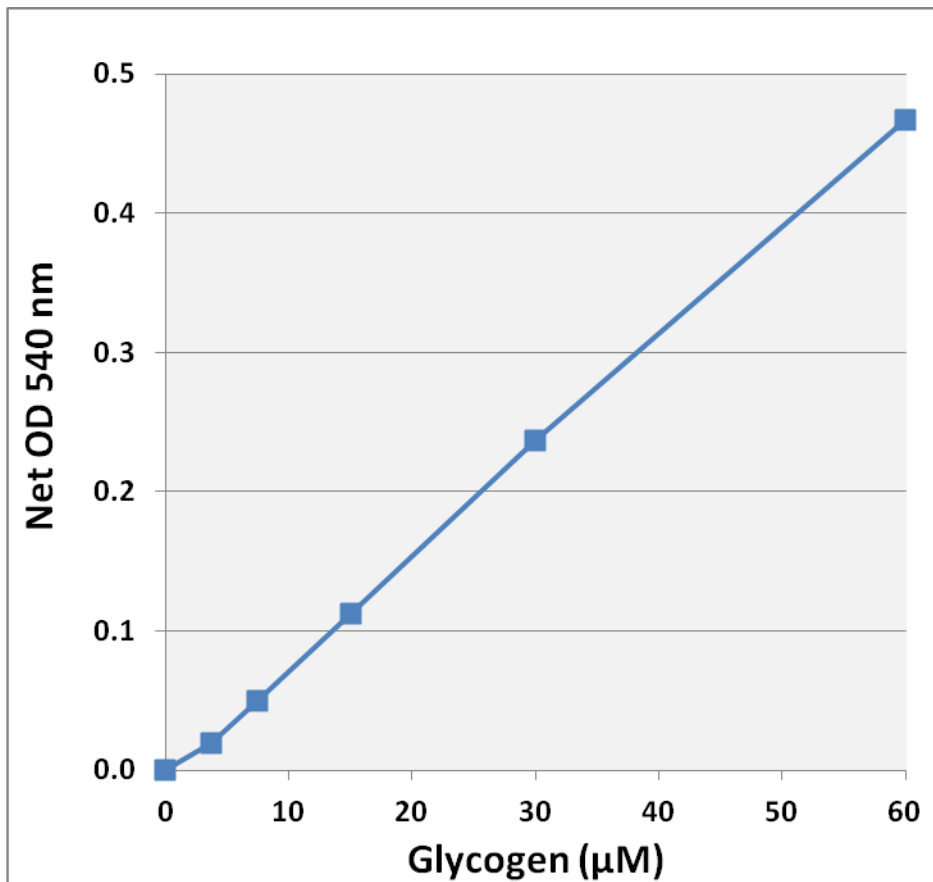

Figure 2: Glycogen Standard Curve.
3. Graph the standard curve (see Figure 2).